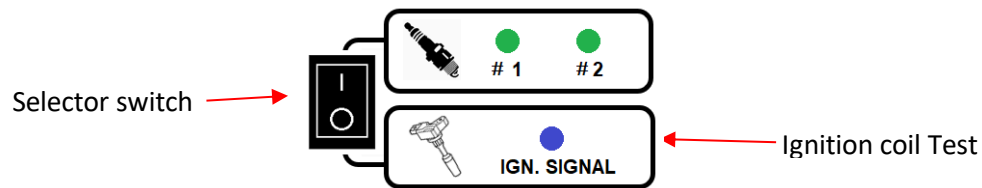

Fig.19
1. Press the **Select** button switch to [IGNITION COIL TEST] as shown in Fig. 19 below: